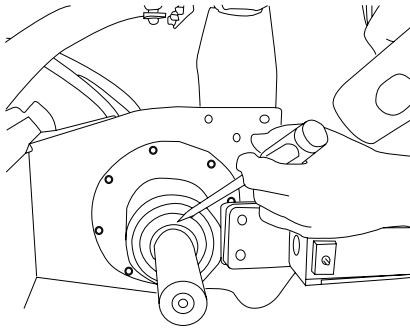

Figure 21
4. Using a pointed punch and hammer, tap gently to break through the seal face and remove the seal [Figure 21].